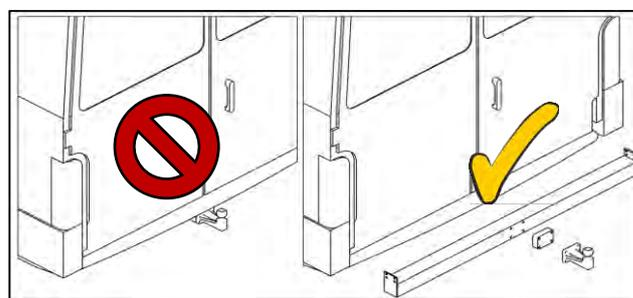

Figure 11
- If a trailer hitch or step is mounted on the vehicle, remove it (see Fig. 11)